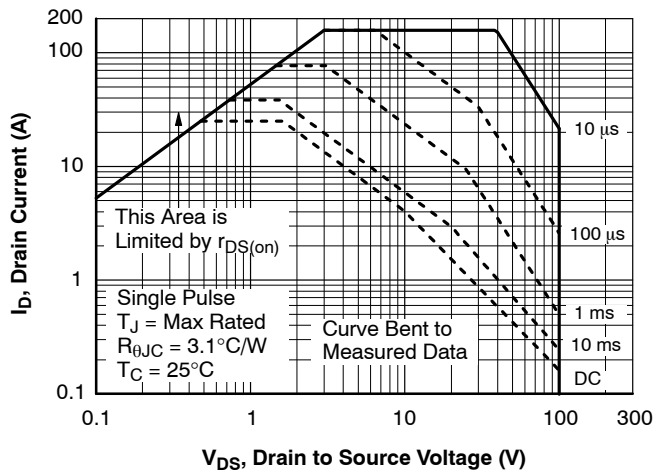

Figure 11. Forward Bias Safe Operating Area
4. Pulse I_d refers to Figure 11. Forward Bias Safe Operation Area.